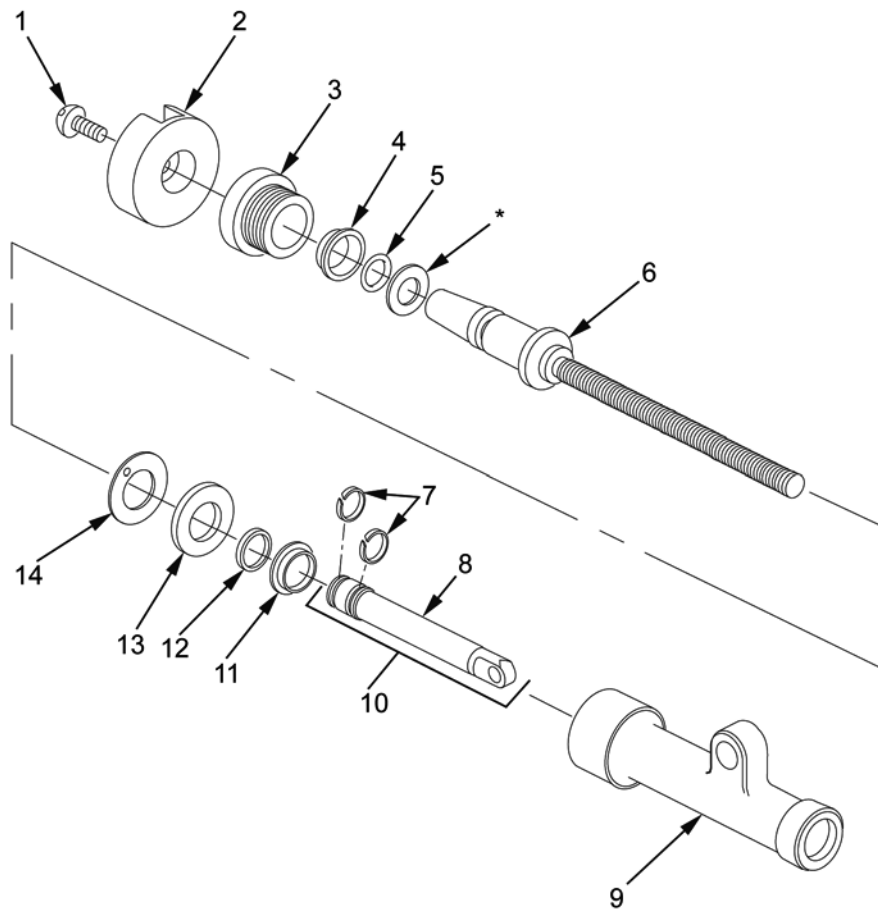

Figure 1. Disassembly of Cross Leveling Assembly.
1. Remove socket head capscrew (Figure 1, Item 1) and hand crank (Figure 1, Item 2).
2. Using face wrench socket, remove sleeve nut (Figure 1, Item 3) from mechanical housing (Figure 1, Item 12).
3. Remove sleeve bearing (Figure 1, Item 4) from sleeve nut (Figure 1, Item 3). Discard sleeve bearing.
4. Remove rod end connector (Figure 1, Item 10) and shoulder screw (Figure 1, Item 6) from mechanical housing (Figure 1, Item 12).
5. Unscrew shoulder screw (Figure 1, Item 6) from rod end connector (Figure 1, Item 10). Remove flat washer (Figure 1, Item 13) and thrust washer bearing (Figure 1, Item 14) from shoulder screw. Discard thrust washer bearing.
6. Remove two wear rings (Figure 1, Item 7) from cross leveling rod (Figure 1, Item 8). Discard wear rings.
7. Remove O-ring (Figure 1, Item 5) from shoulder screw (Figure 1, Item 6). Discard O-ring.
8. Remove plain seal (Figure 1, Item 11) and sleeve bearing (Figure 1, Item 12) from mechanical housing (Figure 1, Item 9). Discard plain seal and sleeve bearing.